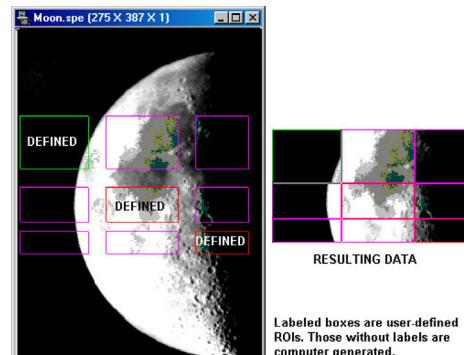

Figure 234. WinX/32 Side-Effect ROIs
**Note:** LightField version 3.0 SPE files are more complex than WinX/32 version 2.x SPE files. The LightField converter allows you to view the data in LightField. File information, however, will be limited and multiple ROIs will be displayed using the WinX/32 side-effect ROIs (*see Figure 234*). Converted data can be exported but it cannot be used in post-processes.